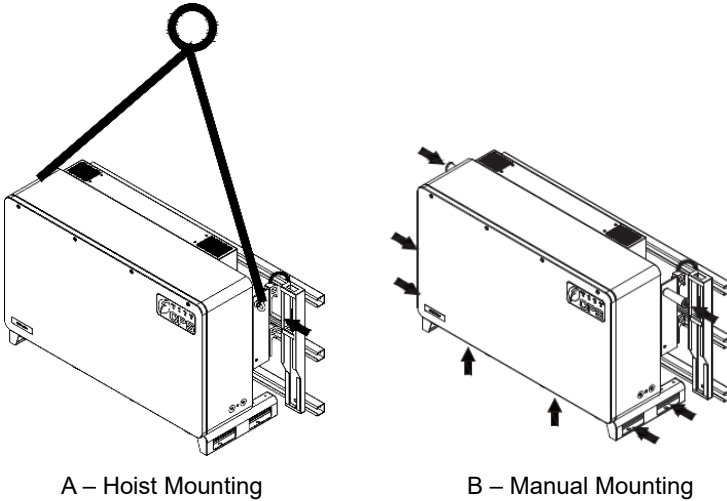

Figure 3-7 Inverter Mounting Methods
- A. Hoist mounting: screw two M10 lifting eyebolts to the studs at the top of the inverter. Use sling rope or bar (inserted through both lifting eyebolts) to lift the inverter onto the mounting bracket. The minimum angle between the two sling ropes should be less than 90 degrees, as shown in Figure 3-7 left.
- B. Manual mounting: Four people are needed to properly lift the inverter by the two handles and supporting positions marked by the arrows in Figure 3-7 right, and mount the inverter onto the mounting bracket.